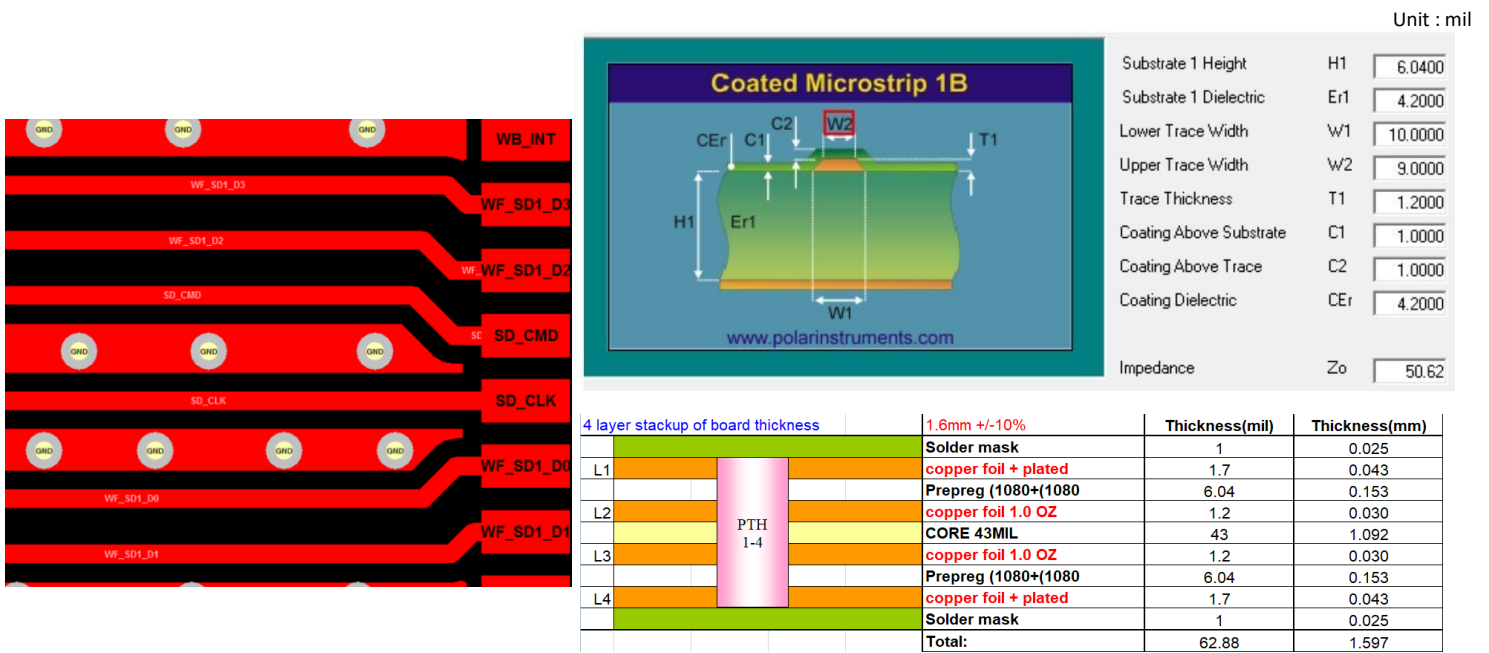

Figure 4 SDIO traces routing in 4 layer PCB and impedance calculation
- Keep the SDIO_CLK line away from the SDIO CMD and DATA lines as shown on Figure 4. Routing SDIO_CLK line closely parallel to the command and data lines can cause glitches on the trace that affect SDIO operation. For example, SDIO bus PCB layout and impedance calculation for 2 and 4 layer PCB design as below: